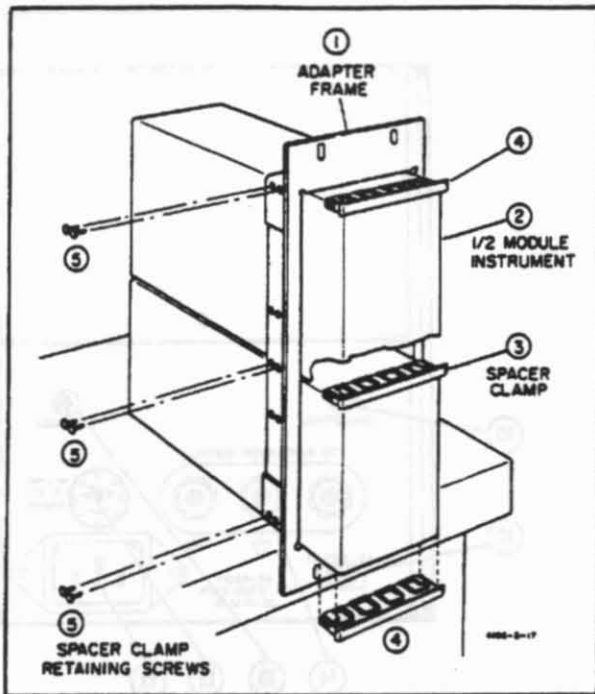

Figure 2-4. Two Half Modules in Rack Adapter.
- a. Place the adapter frame on edge of bench as shown in step 1, Figure 2-4.
- b. Stack the submodular units in the frame as shown in step 2, Figure 2-4. Place the spacer clamps between instruments as shown in step 3, Figure 2-4.
- c. Place spacer clamps on the two end instruments (see step 4, Figure 2-4) and push the combination into the frame.